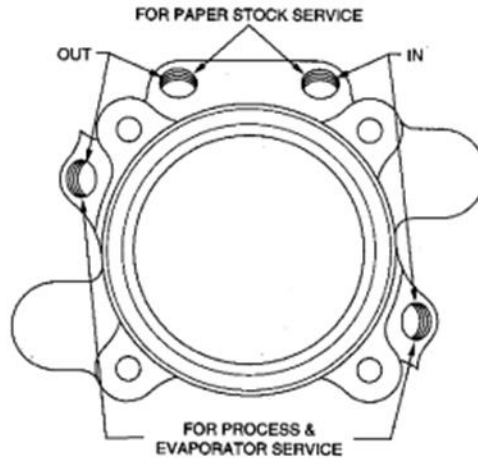

FIGURE 7
24. If unit requires stuffing box packing, refer to section II-Q and pack as directed. (Refer also to Fig. 7 for alternate methods of packing.)
The standard stuffing box cover has four pipe taps for sealing or flushing liquid to the packing or mechanical seal. Two are used for in and out connections to the throat of the stuffing box for paper stock services with the lantern ring positioned next to the stuffing box throat bushing. Two are alternately used for evaporator or chemical services as in and out connections. Figure 7 shows a stuffing box and location of holes, and the holes used for evaporator services and paper stock service.